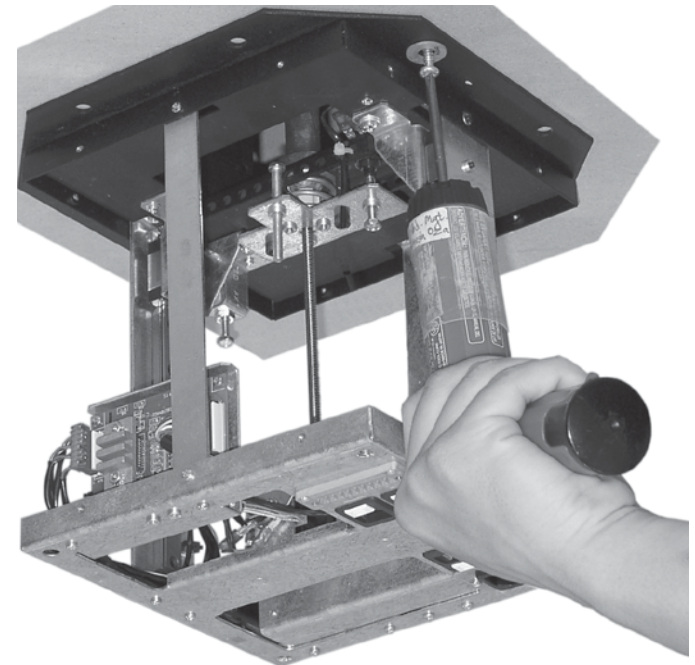

Figure B-7 — Removing the HSA from the table
- m. On the underside of the table, support the HSA while you remove the eight screws that secure the enclosure to the table (figure B-7). Lift the enclosure away from the table.